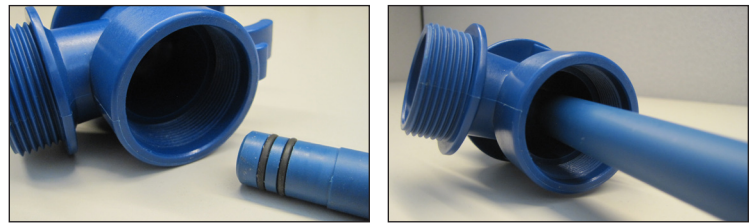

Figure 11 A & B
- 2. Inner Tube & Center Support Installation** - Reinstall the inner tube, center support (items 12 & 13). Reinstall the inner tube with center support. The double o-ring side seats up into the head with a slight twisting motion. Make sure the inner tube is seated properly. It is recommended to use a compatible lubricant or water on the o-rings. See figures 11 A & B.